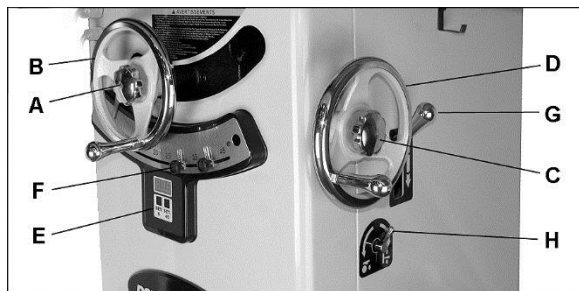

Figure 8-1: blade adjustments
See Figure 8-1.
To raise or lower blade, loosen lock knob (A, Figure 8-1) and turn handwheel (B) on front of saw until desired height is reached. Tighten lock knob (A). The blade should be raised about 1/8" above top surface of material being cut.
To engage caster system, pump handle (G, Figure 8-1) about 4 or 5 times.